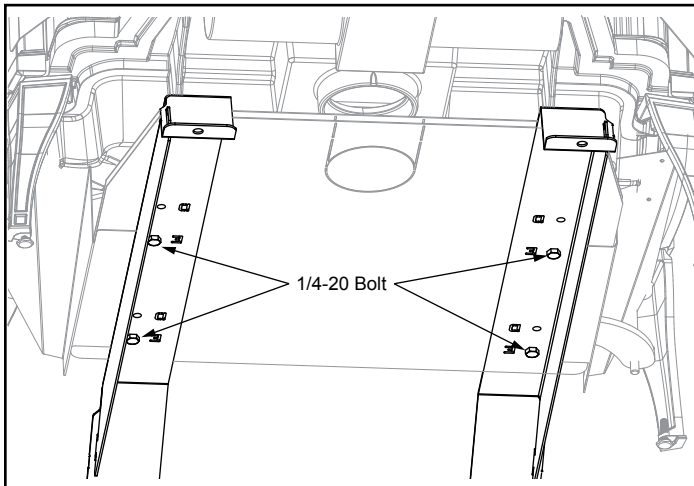

Figure 3.1 - Remove unit from shipping brackets.
Remove the unit from the shipping brackets by removing (2) 1/4-20 hex head bolts from each shipping bracket, leaving brackets attached to the skid, Figure 3.1. (Save the 1/4-20 hex head bolts as they will be needed later to install heat shield.)